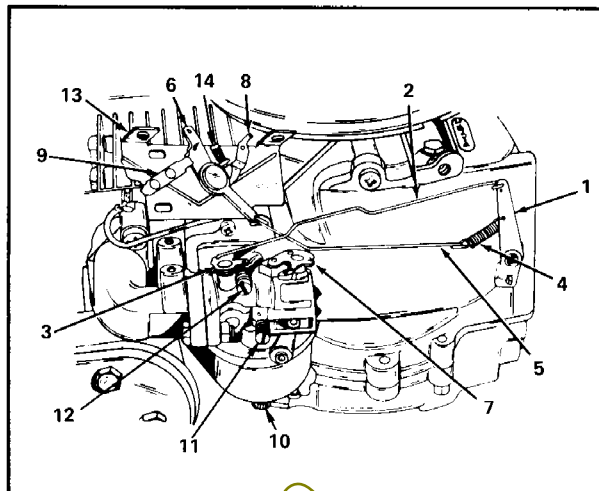

Figure 6-1
Use the following text both (1) to explain the purpose or function of the different carburetor parts and (2) as a number key to the accompanying illustration. (Figure 6-1)